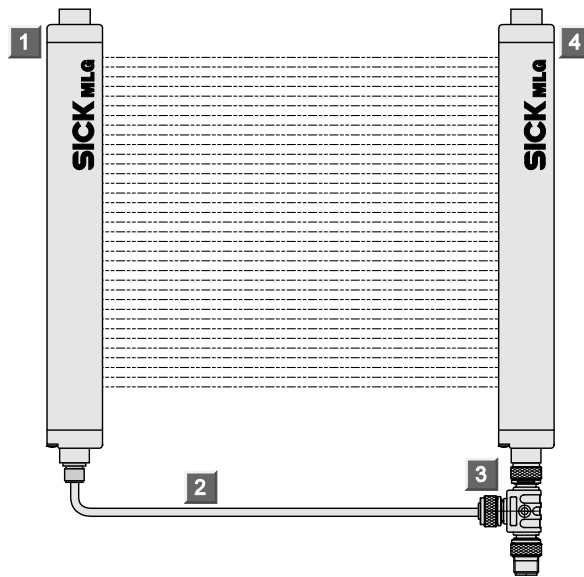

Fig. 31: Connecting sender and receiver via a T-distributor
- In case of cable lengths greater than 15 m or interference in the environment, we recommend a T-distributor. → See page 41, Fig. 31 and page 87, chapter 14.